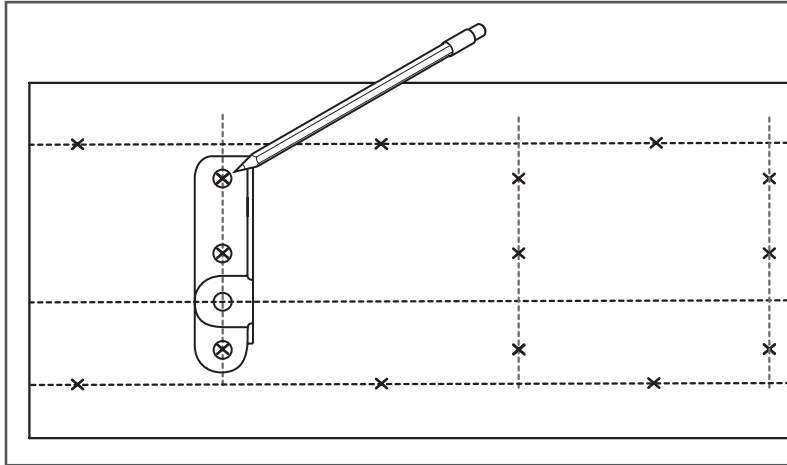

Figure 6
6. Place the heavy spacer (A.) so the tongue of the spacer is centered on the vertical pencil line for the track. Mark the center of each of the three holes in the spacer back. Repeat for remaining spacers (Figure 6).